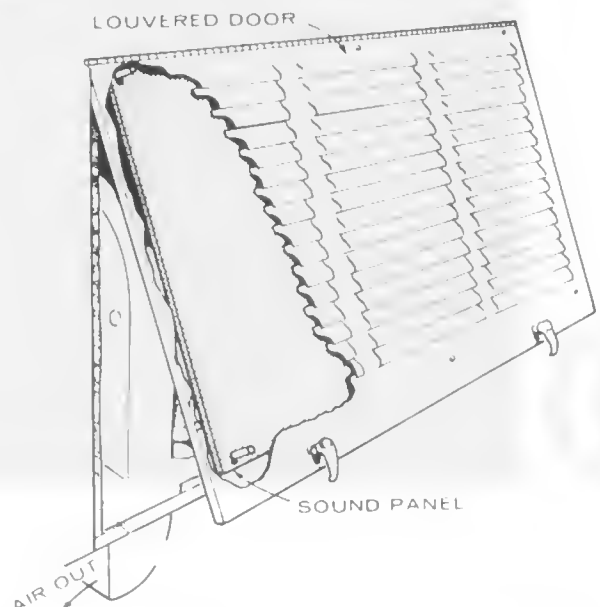

FIGURE 4. TYPICAL LOUVERED DOOR AIR INLET
Sheet metal with louvers can be used over inlet areas. However, some provide only 60 percent free inlet area per square foot. Even the most efficient grille only provides about 90 percent free inlet area per square foot. The free inlet area of the material can be obtained from the manufacturer. Calculate the inlet area needed using the following information as a guide. See Figure 4.
4. To prevent line of sight noise, a sound panel (baffle) may be added behind louvered air inlet. The panel must be spaced to allow for minimum free air inlet of 50 square inches. See Figure 4.